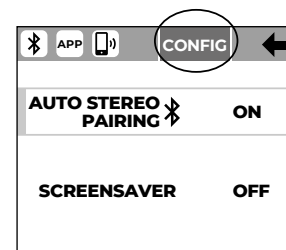

Fig.5
2. Repeat the operation to release element **A** from the subwoofer (Fig.5)
### 5.4 | CONFIG MENU SCREEN (Fig.5)